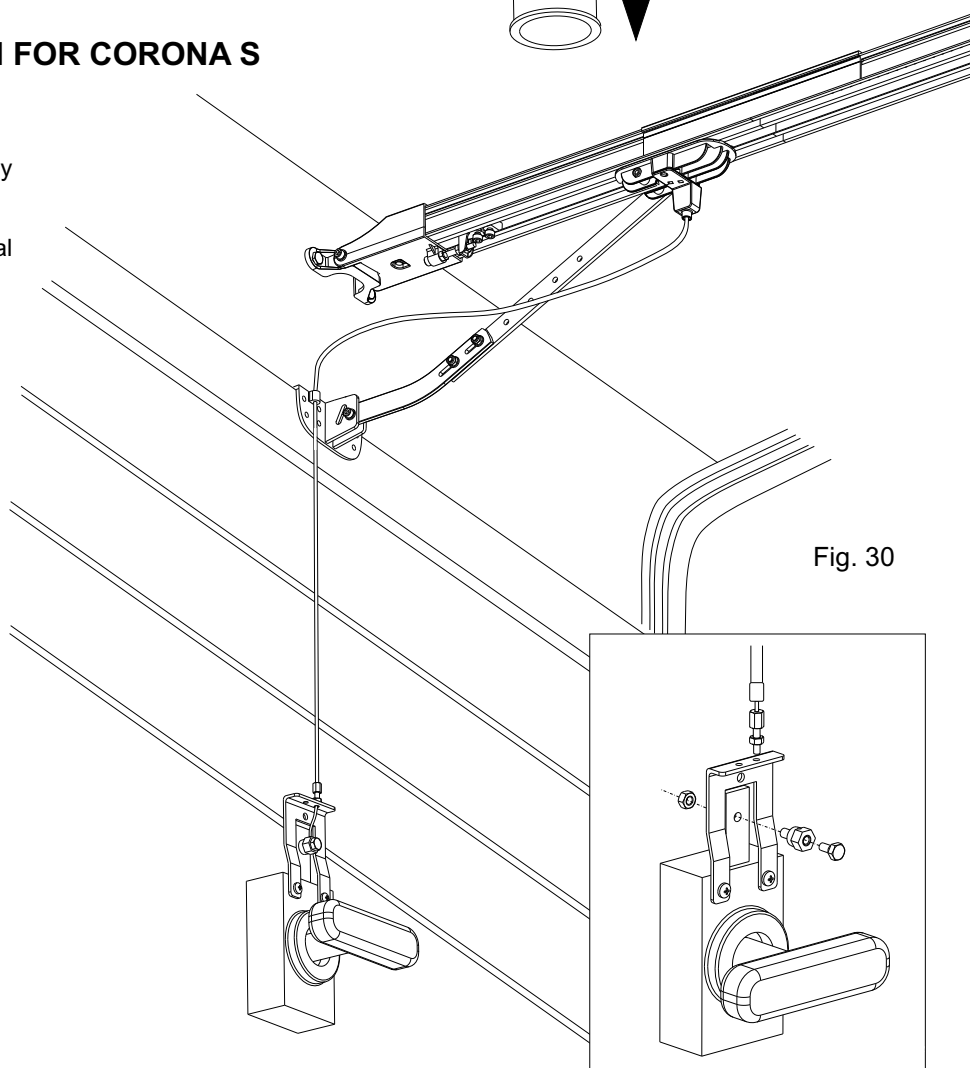

Fig. 30
- Turn the knob and open the door manually (Fig. 30)